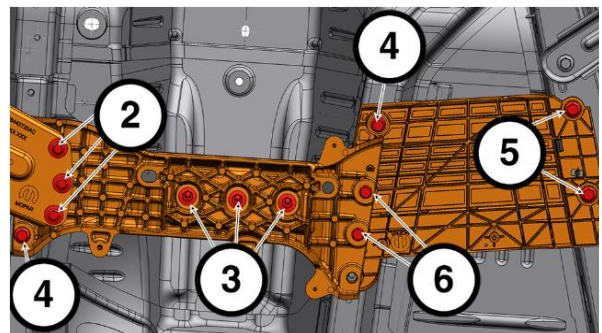

Figure 10 - Callout
7. Reinstall the transmission crossmember and the impact brace to body bracket and tighten the crossmember bolts to 62.5Nm (84ft. lbs.) and tighten the impact brace to body fasteners to 47.5N·m (35ft. lbs.) (Figure 10).